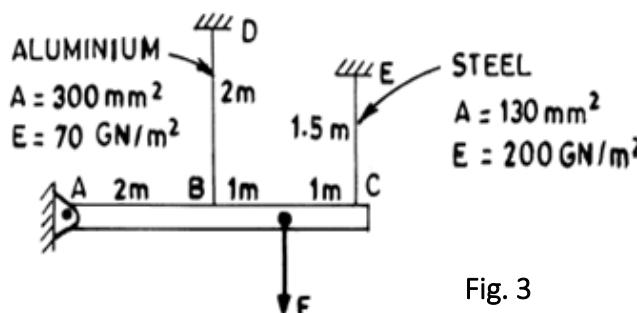

Fig. 3
3. Determine the stresses in each wires supporting the rigid bar as shown in **Fig.3** if $F=20 \text{ kN}$